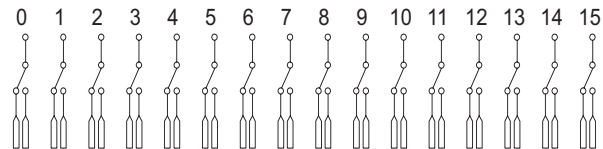

Fig. 6
**VX16/GC** has 16 single pole, **Form C** relays wired out to two 20 pin header connectors as shown in **Fig. 6**.